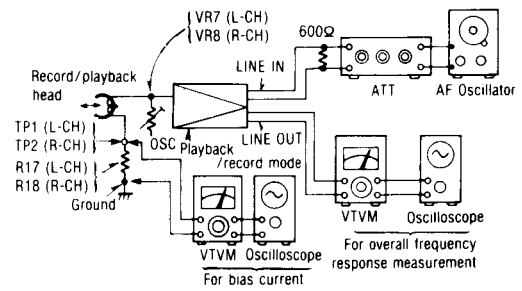

Fig. 10
1. Make connections as shown in fig. 10.